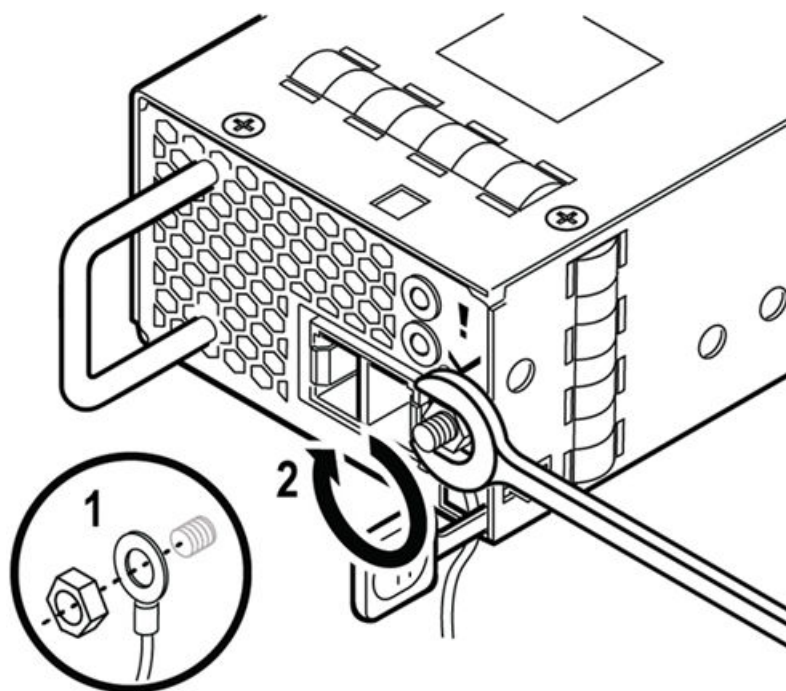

Figure 305: Securing the Ground Wire
- b. Slide the ring terminal of the ground wire onto the grounding post (callout 1 in Figure 305).